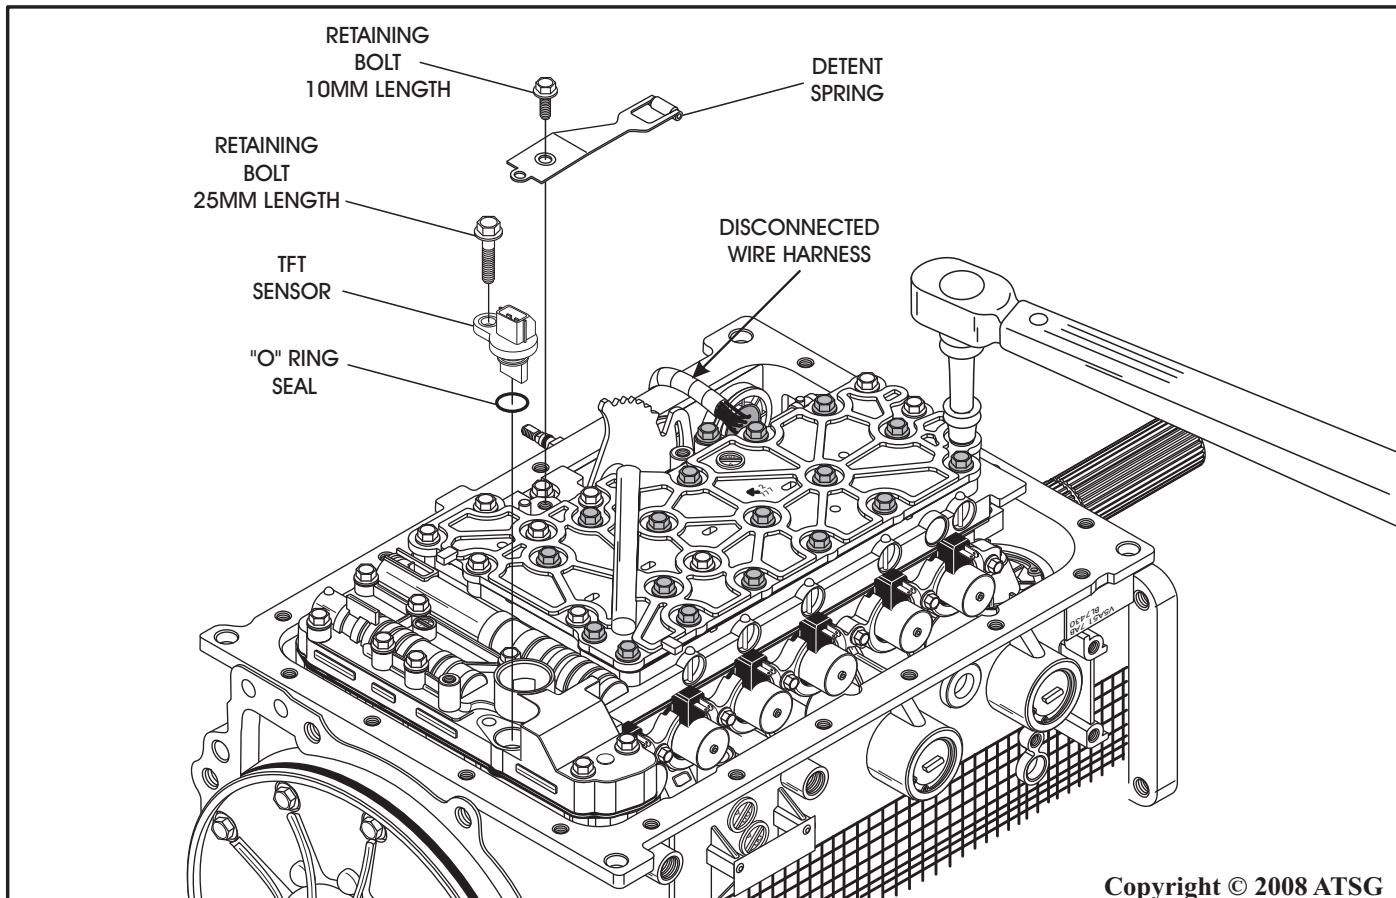

Figure 225
88. Install new "O" ring seal onto the TFT sensor, as shown in Figure 225.
89. Install the completed TFT sensor into the valve body, as shown in Figure 225, and hand tighten only at this time.
90. Now, you can torque all valve body to case retaining bolts to 11 N•m (97 in.lb.), as shown in Figure 225.
91. Install the inside detent detent spring and bolt, as shown in Figure 225, and torque the bolt to 6 N•m (52 in.lb.).